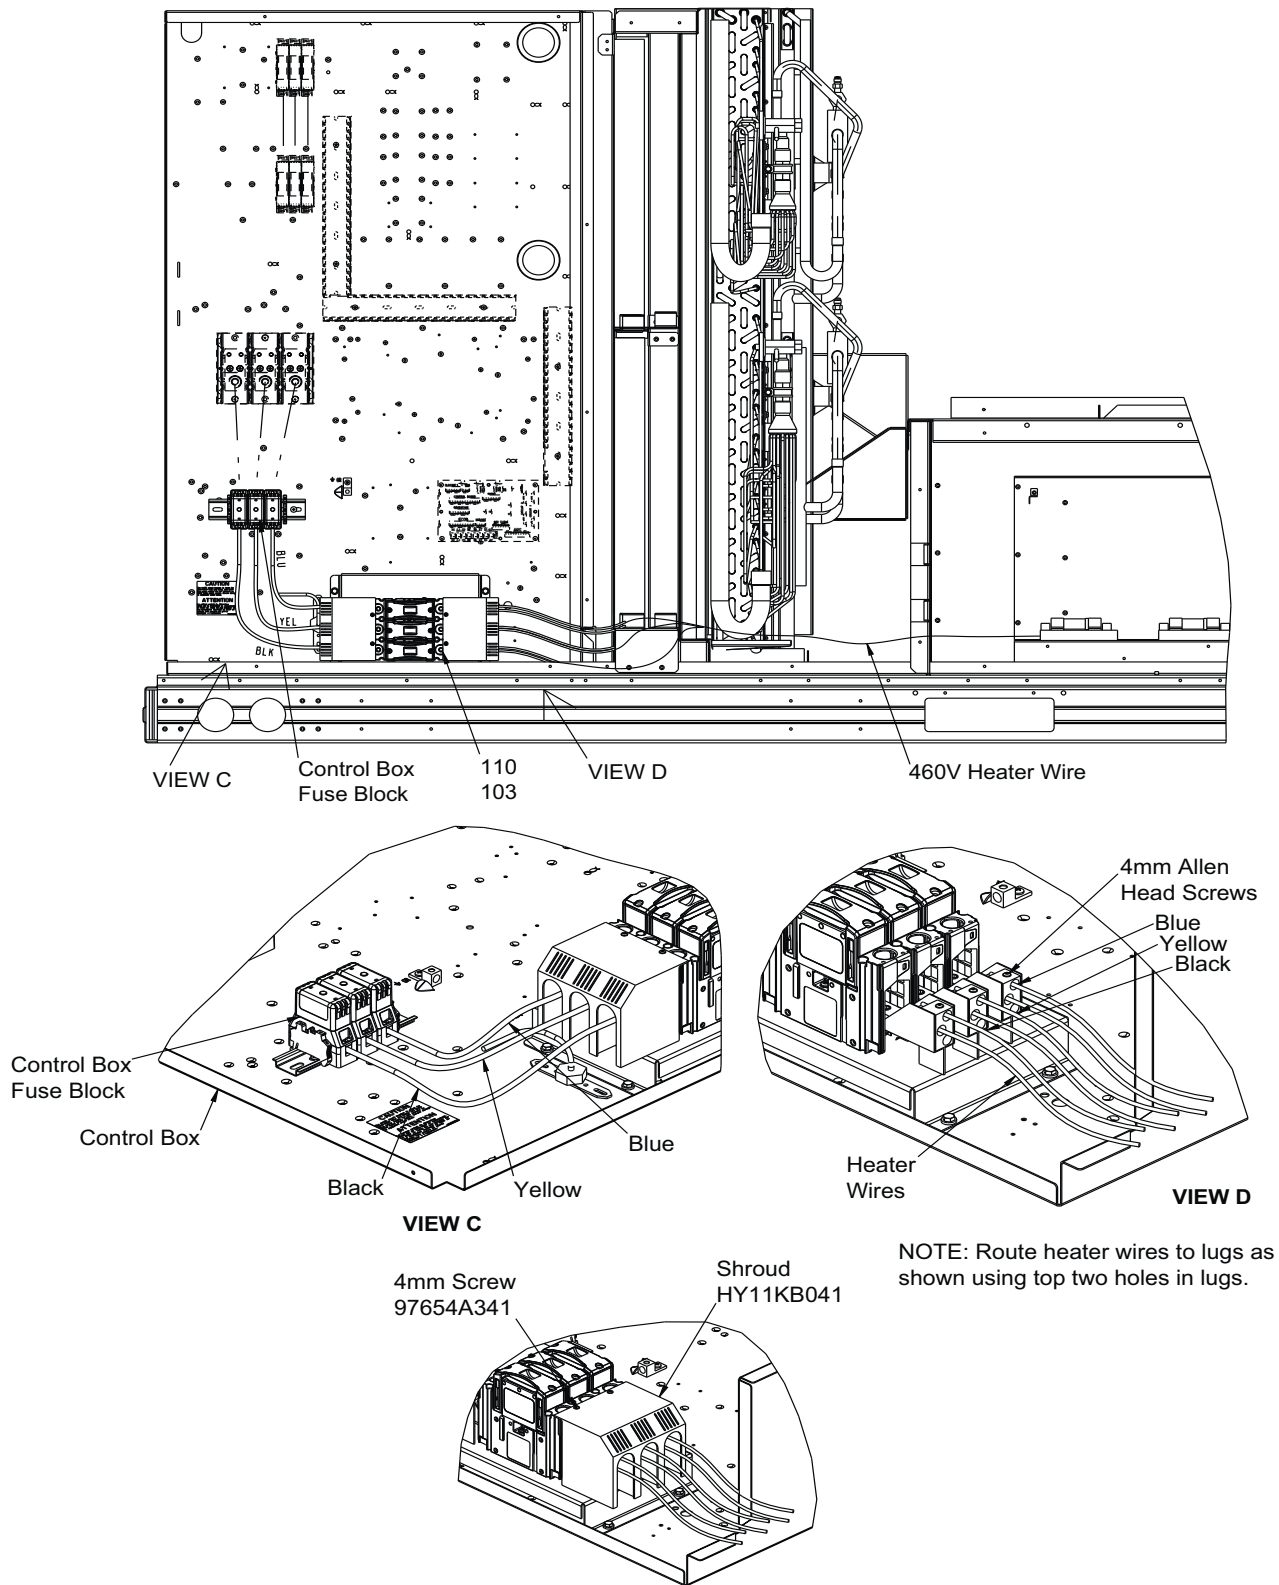

Fig. 51 — 460V Single Point Power Assembly Location (High SCCR)
1. Remove shroud screws and shroud. Install fuse block assembly in location shown in Fig. 51.